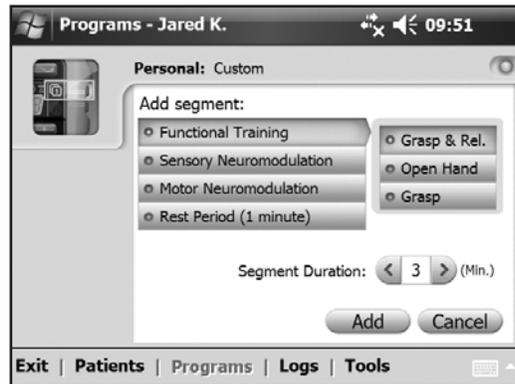

Figure 8-34: Personal Custom Program Add Segment window.
6. To add a segment, press **Add** to open the Add Segment window. See Figure 8-34. Select the desired segment, adjust the segment duration, and press **Add**. The added segment